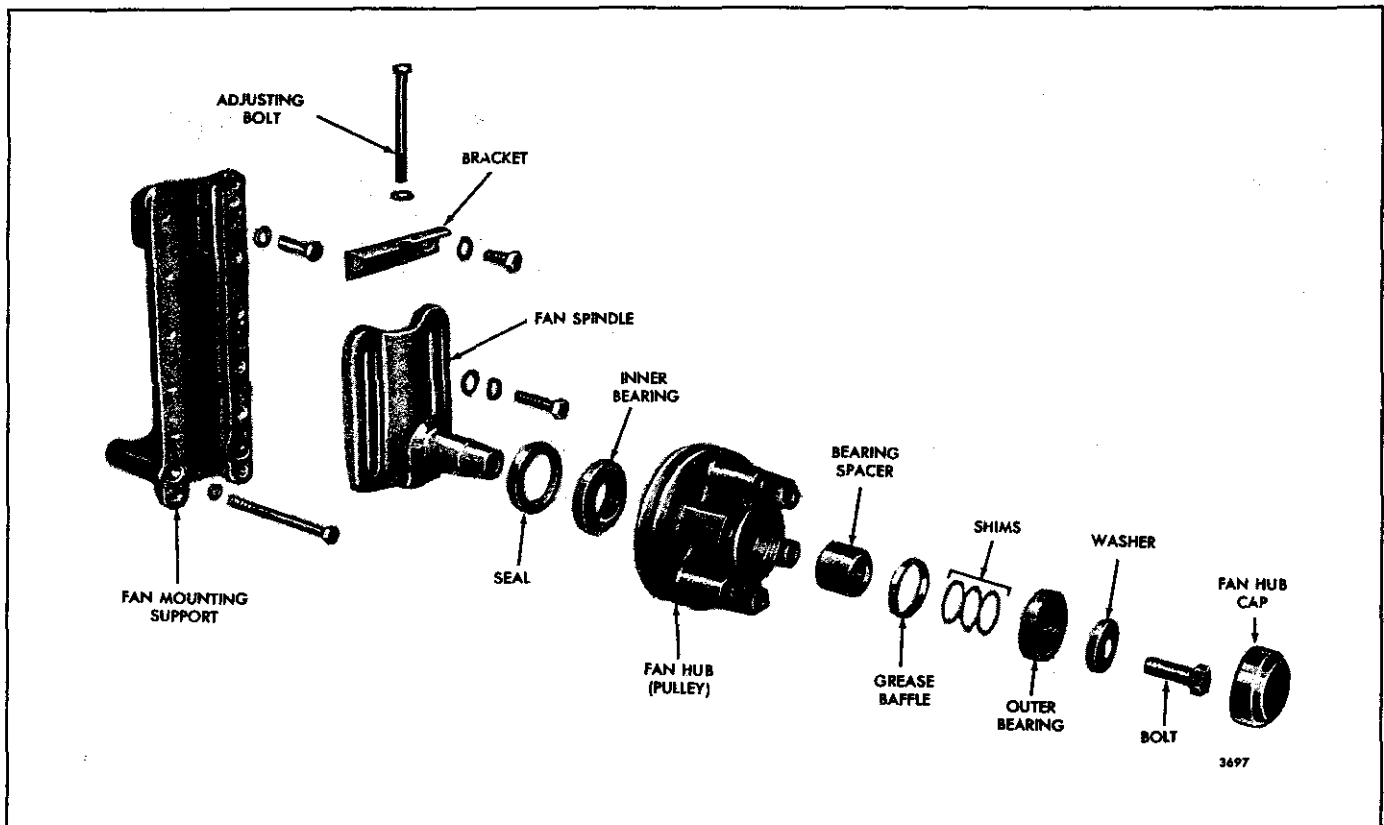

Fig. 12 - Typical Fan Hub and Spindle Details and Relative Location of Parts (6V and 8V Engine)
2. Install the drive belts and adjust the belt tension as outlined in Section 15.1. If used, install the adjusting bracket, bolt and plain washer shown in Fig. 12.